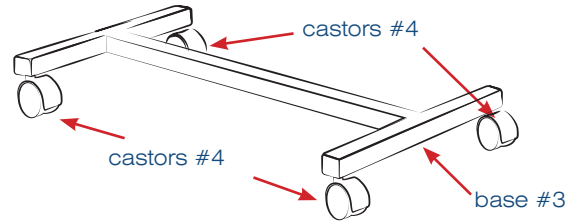

figure 3
3. Screw castors (4) into base (3) making sure the locking castors are opposite to the column. (Figure 3)